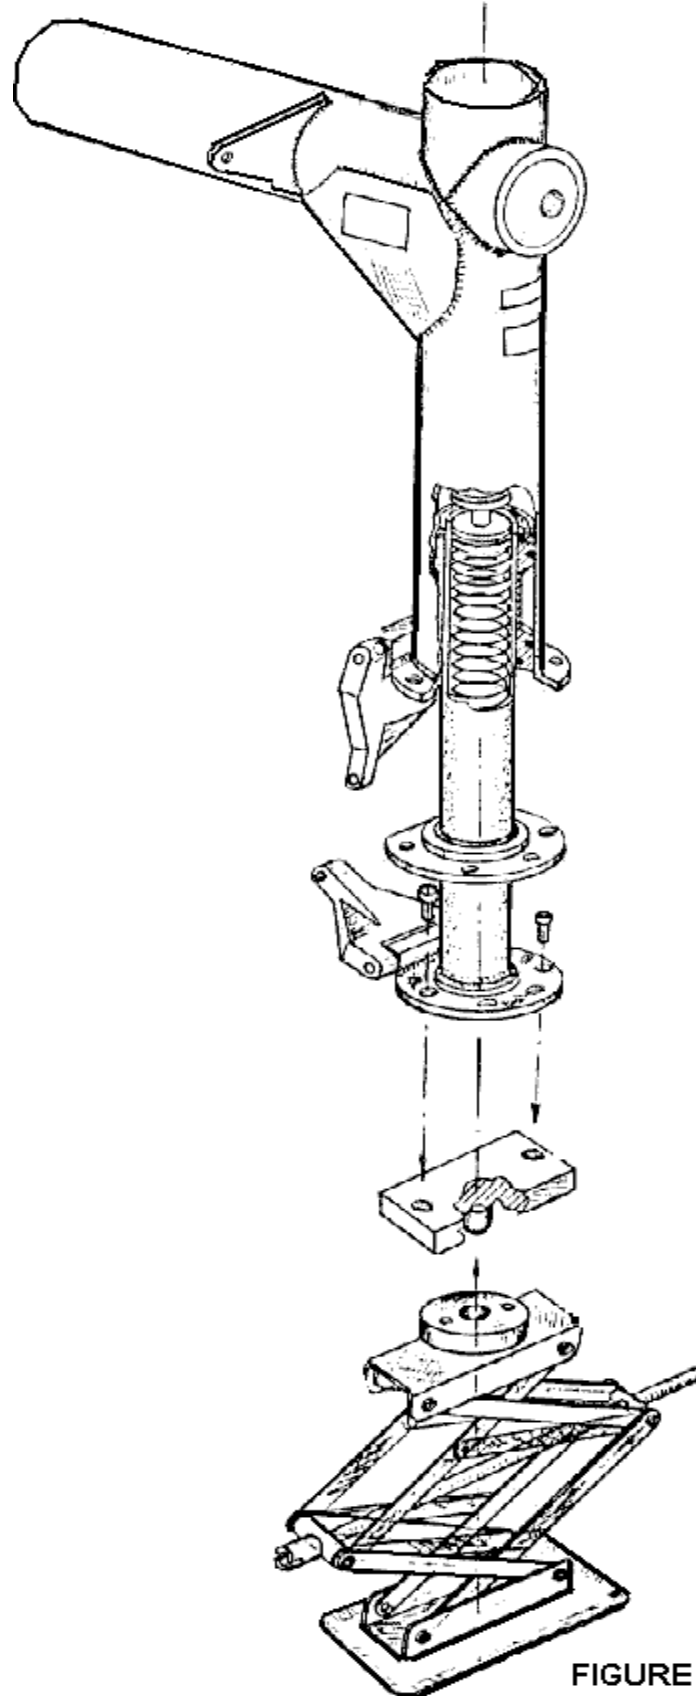

FIGURE 2
- 4.11 Install the movable strut assy. (item 13) inside of the fixed strut (item 1) by using the special tool n° 32350-A-23F as shown in Figure 2. Align the holes of the fixed strut (item 1) with the plate (item 14) with six bolts (item 15), washers (item 16) and nuts (item 17).